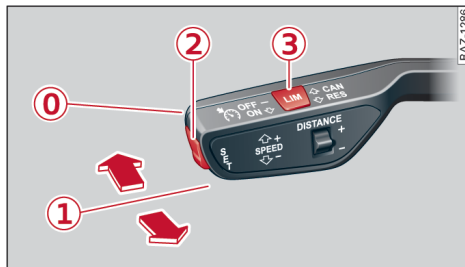

Fig. 112 Control lever: Operating adaptive cruise assist
- You can extend or re-activate the period in which the vehicle is ready to drive off automatically for a short time by pulling the lever towards you briefly in the direction of the arrow ⇨ *page 147, Fig. 112.*